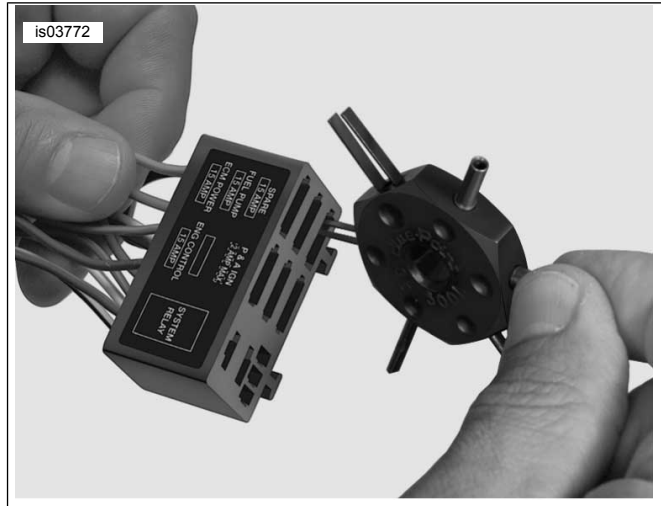
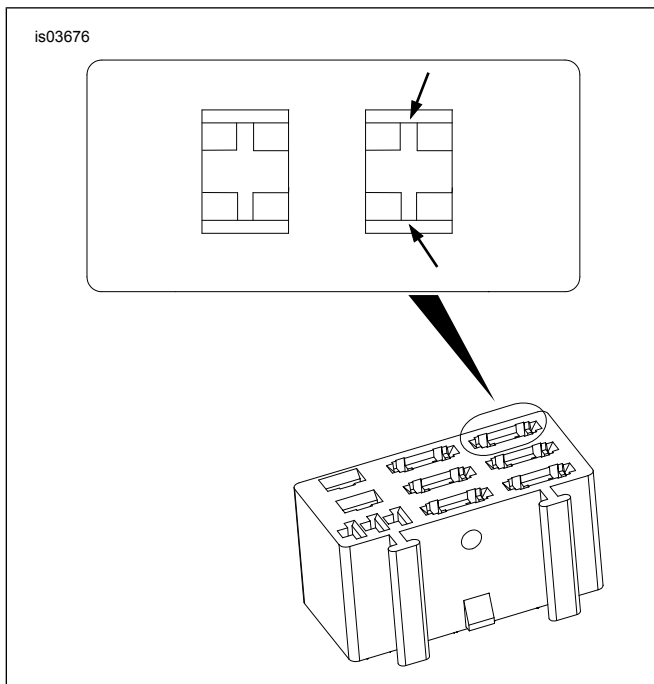

Figure 3. Terminal Pick Tool (Snap On GA500A)
Figure 5. Terminal Slots in Fuse Block Cavity
2. See Figure 3 to Figure 5. While maintaining pressure on terminal wire from the back side, insert terminal pick tool into the small slots adjacent to the fuse cavity on top side of fuse block, simultaneously depressing tangs on both sides of terminal.